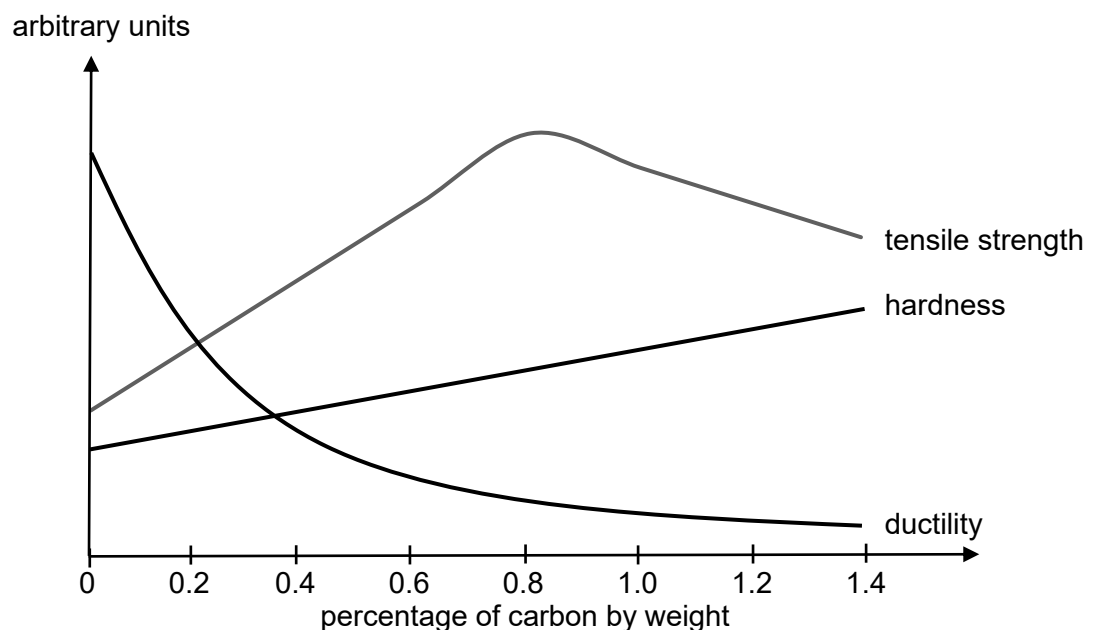

Fig. 8.1
Fig. 8.1 shows the correlation between the percentage of carbon by weight in carbon steels and their tensile strength, hardness as well as ductility.
- (b) Use relevant data from Fig. 8.1 to explain why low carbon steel and high carbon steel are suitable for their respective uses.